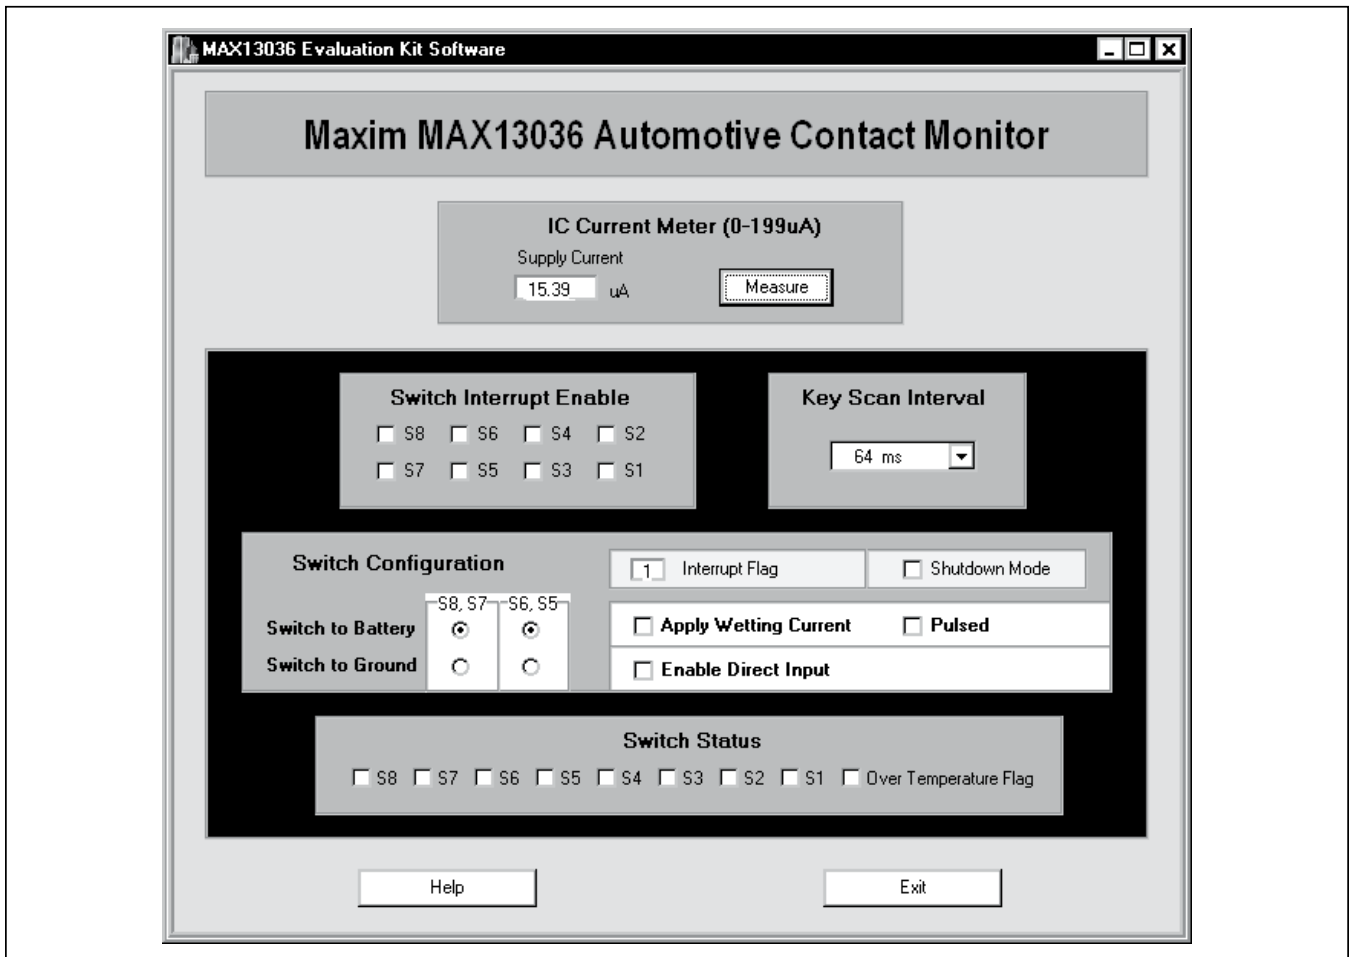

Figure 1. MAX13036 Evaluation Software Main Window
- 10) Start the MAX13036 EV kit software by opening its icon in the **Start** menu. The GUI main window appears, as shown in Figure 1.
To start the MAX13036 EV kit software, double-click the MAX13036 EV kit icon that is created during installation. The GUI main window appears, as shown in Figure 1.
By pressing the **Measure** button on the **IC Current Meter (0-199 $\mu$ A)** panel shown in Figure 1, the operating current of the MAX13036 will be displayed. The measuring range of this meter is from 0 to 199 $\mu$ A. The **Measure** button will be grayed out (disabled) if the **Apply Wetting Current** checkbox on the **Switch Configuration** panel has been checked.